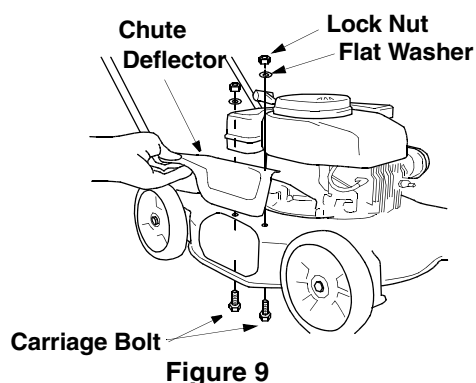

Figure 9
1. Place the chute deflector in position on the deck, aligning holes. See Figure 9.